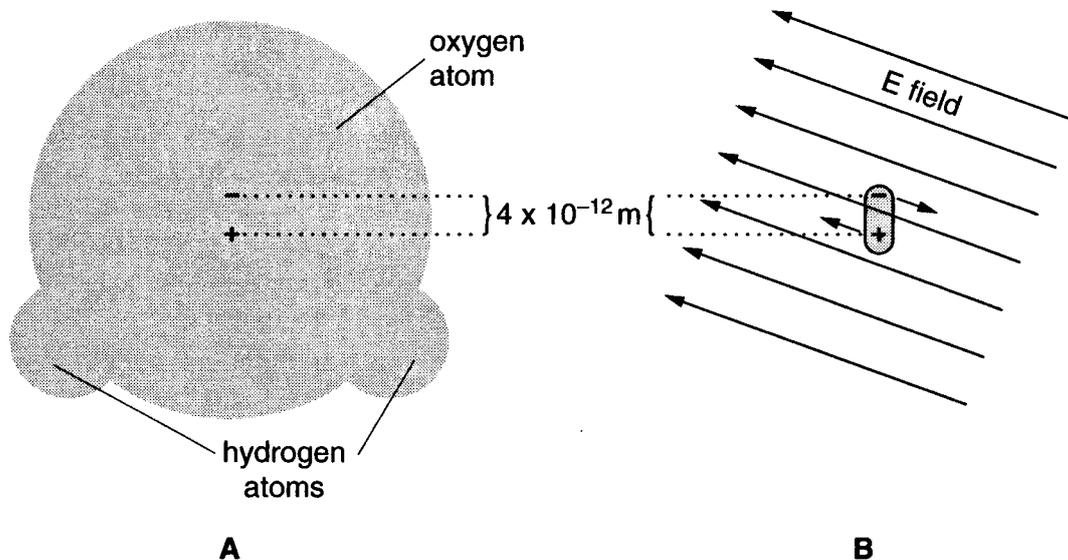

Fig. 6
- 105 Infrared photons have been associated with heating since William Herschel first observed an invisible portion of the spectrum heating up a thermometer. A typical infrared photon has an energy of 0.1 eV to 1.0 eV. This is readily absorbed by molecular bonds, as you can see when you toast bread or grill fish. But why do microwave photons, with energies about 10^4 times smaller, also heat materials? To understand this, you need to consider the shape and nature of a water molecule. As Fig. 6 A below shows, a water molecule is asymmetrical.
- The electrons within the molecule are also asymmetrically distributed in the molecule, being closer on average to the oxygen atom than to the two hydrogen atoms. This means that the centre of charge of the ten protons in the molecule and the centre of charge of the ten electrons are not at the same place, but separated by about $4 \times 10^{-12} \text{m}$, or about one-tenth of the diameter of the molecule. This separation of charges means that a water molecule is a dipole, and behaves in an electric field in much the same way as a bar magnet in a magnetic field. This is shown in Fig. 6 B, where the two charges of the dipole are pushed in opposite directions by the applied electric field.